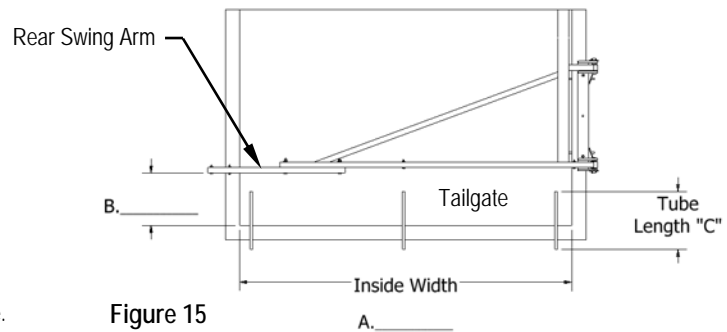

Figure 15
- See *Figure 15*. Measure inside trailer width at tailgate. Measurement A
- See *Figure 15*. Measure distance from Rear Swing Arm to inside of tailgate. Measurement B.
- See *Figures 15 & 17, Chart 1, & Measurement B*. Using measured distance from Rear Swing Arm to tailgate. Cut the Extension Tube - Rear Arm (2) from the end opposite of through hole to tube length "C" per chart.